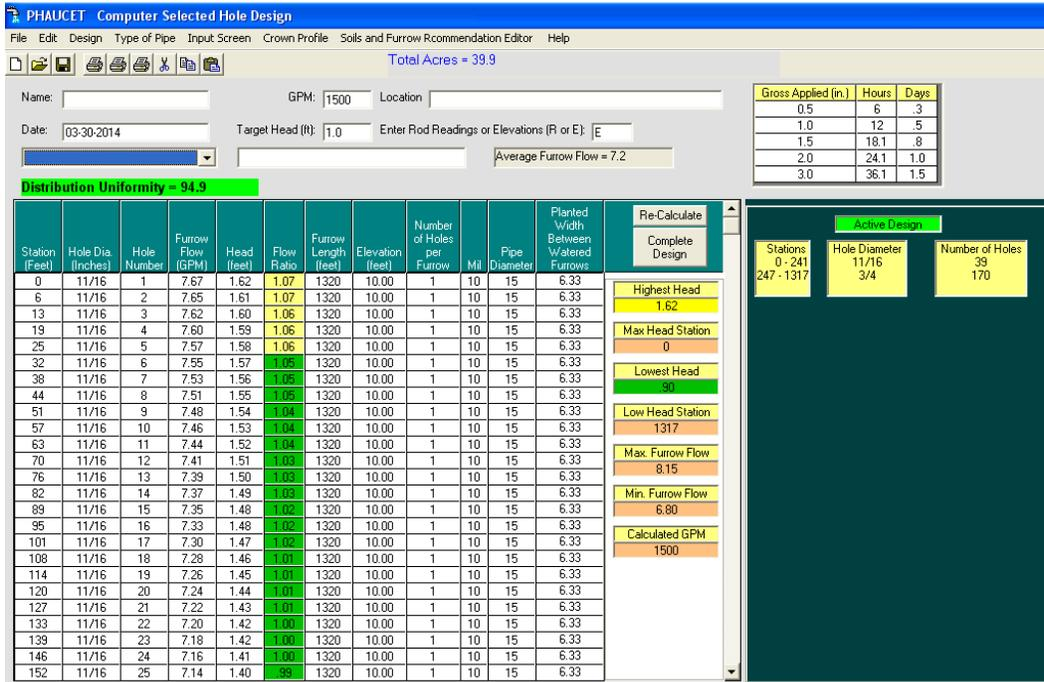

Figure 1.4 – Example 1 CSH Design Screen
**STEP 2:** Click on the Computer Hole Selection option from the Design menu. The screen should be similar to (fig. 1.4).